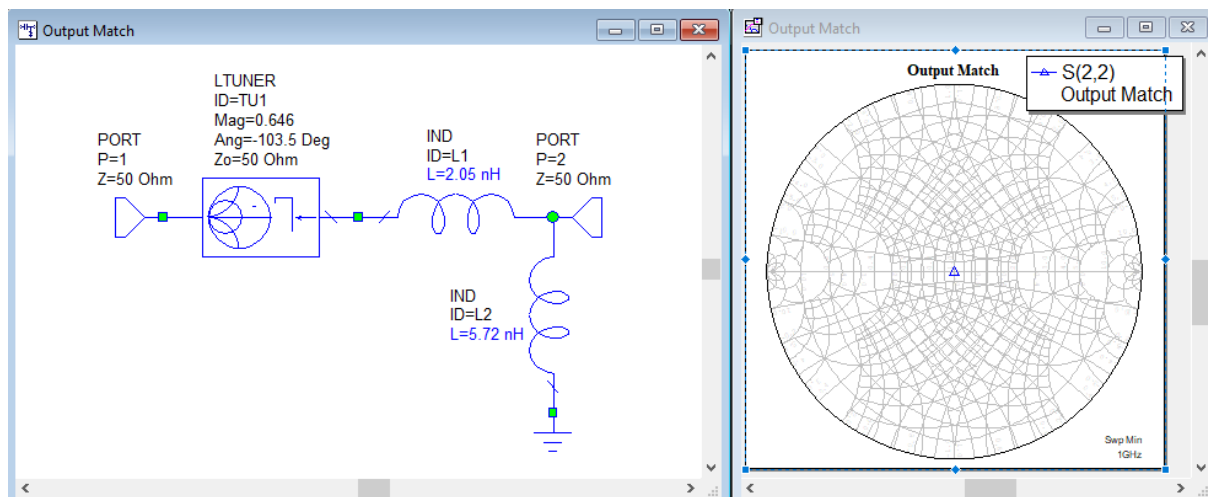

Fig. 9 Output matching circuit and resulting reflection coefficient.
- Moving the reflection coefficient to the center of the Smith Chart can be done by, first, connecting the inductor in series (red curve) and the second inductor connected in parallel (blue curve). The matching circuit and resulting reflection coefficient is shown in Fig. 9.